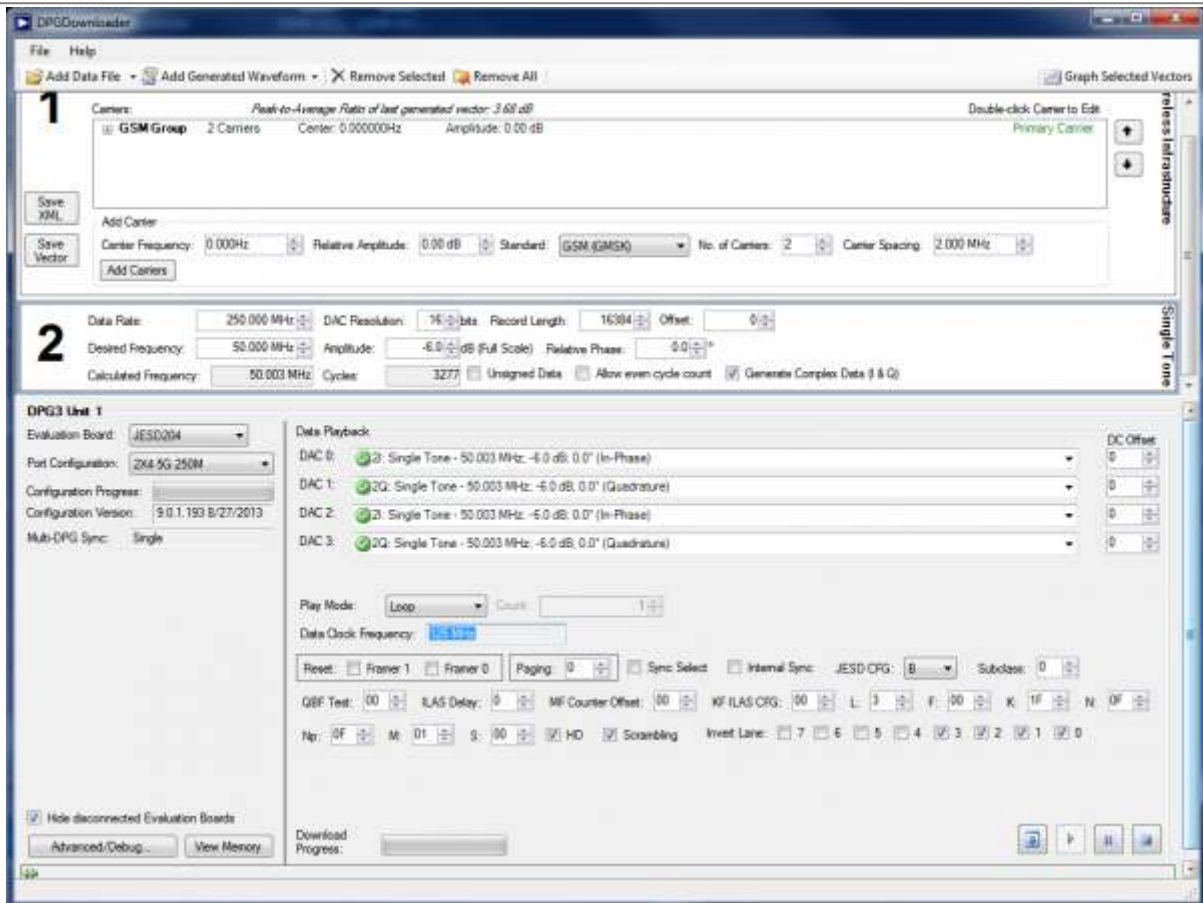

Figure 4. DPG Downloader sinewave vector
3. Click on “Add Generated Waveform”, and then “Single Tone”. As shown in Figure 4, a Single Tone panel will be added to the vector list. Enter the sample rate, in this case 250MHz and the desired frequency, 50MHz. Enter the digital amplitude. In this case we use -6dBFS. Check the “Generate Complex Data (I & Q)” box and uncheck the “Unsigned Data” box. Select the In-Phase data vector in the “DAC0” and “DAC2” drop down menu and the Quadrature data vector in the “DAC1” and “DAC3”.